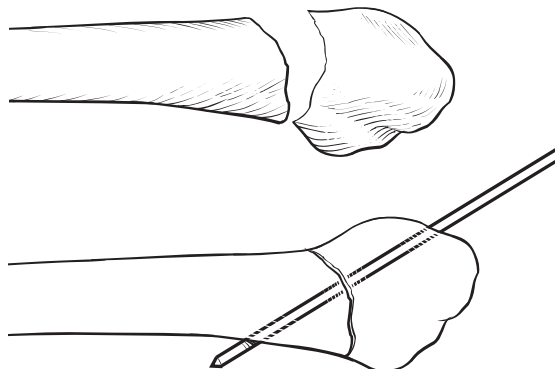

Fig. 7
7. Stabilize the fracture with 1.4mm K-wires (DH0460CE) as needed (**Fig. 7**).